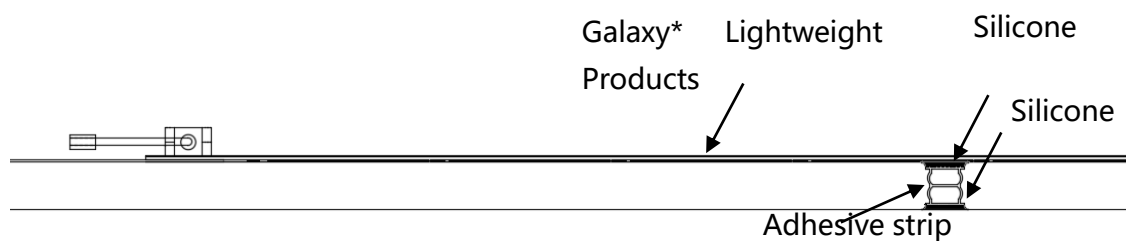

Figure 7
- Two people grip the four corners of Galaxy* Lightweight product, carry them vertically, and then face up to bond the adhesive strip on the back of the products to the flat roof.. Use a flexible tool to gently press the front of the product to fully bond the product to the roof (as in Figure 7).